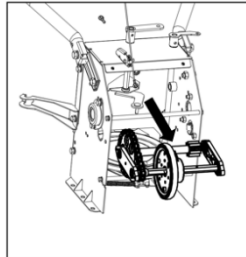

Figure 26
5. Pull the hex shaft by force, remove the hex shaft and transition shaft assembly off. See Figure 26.